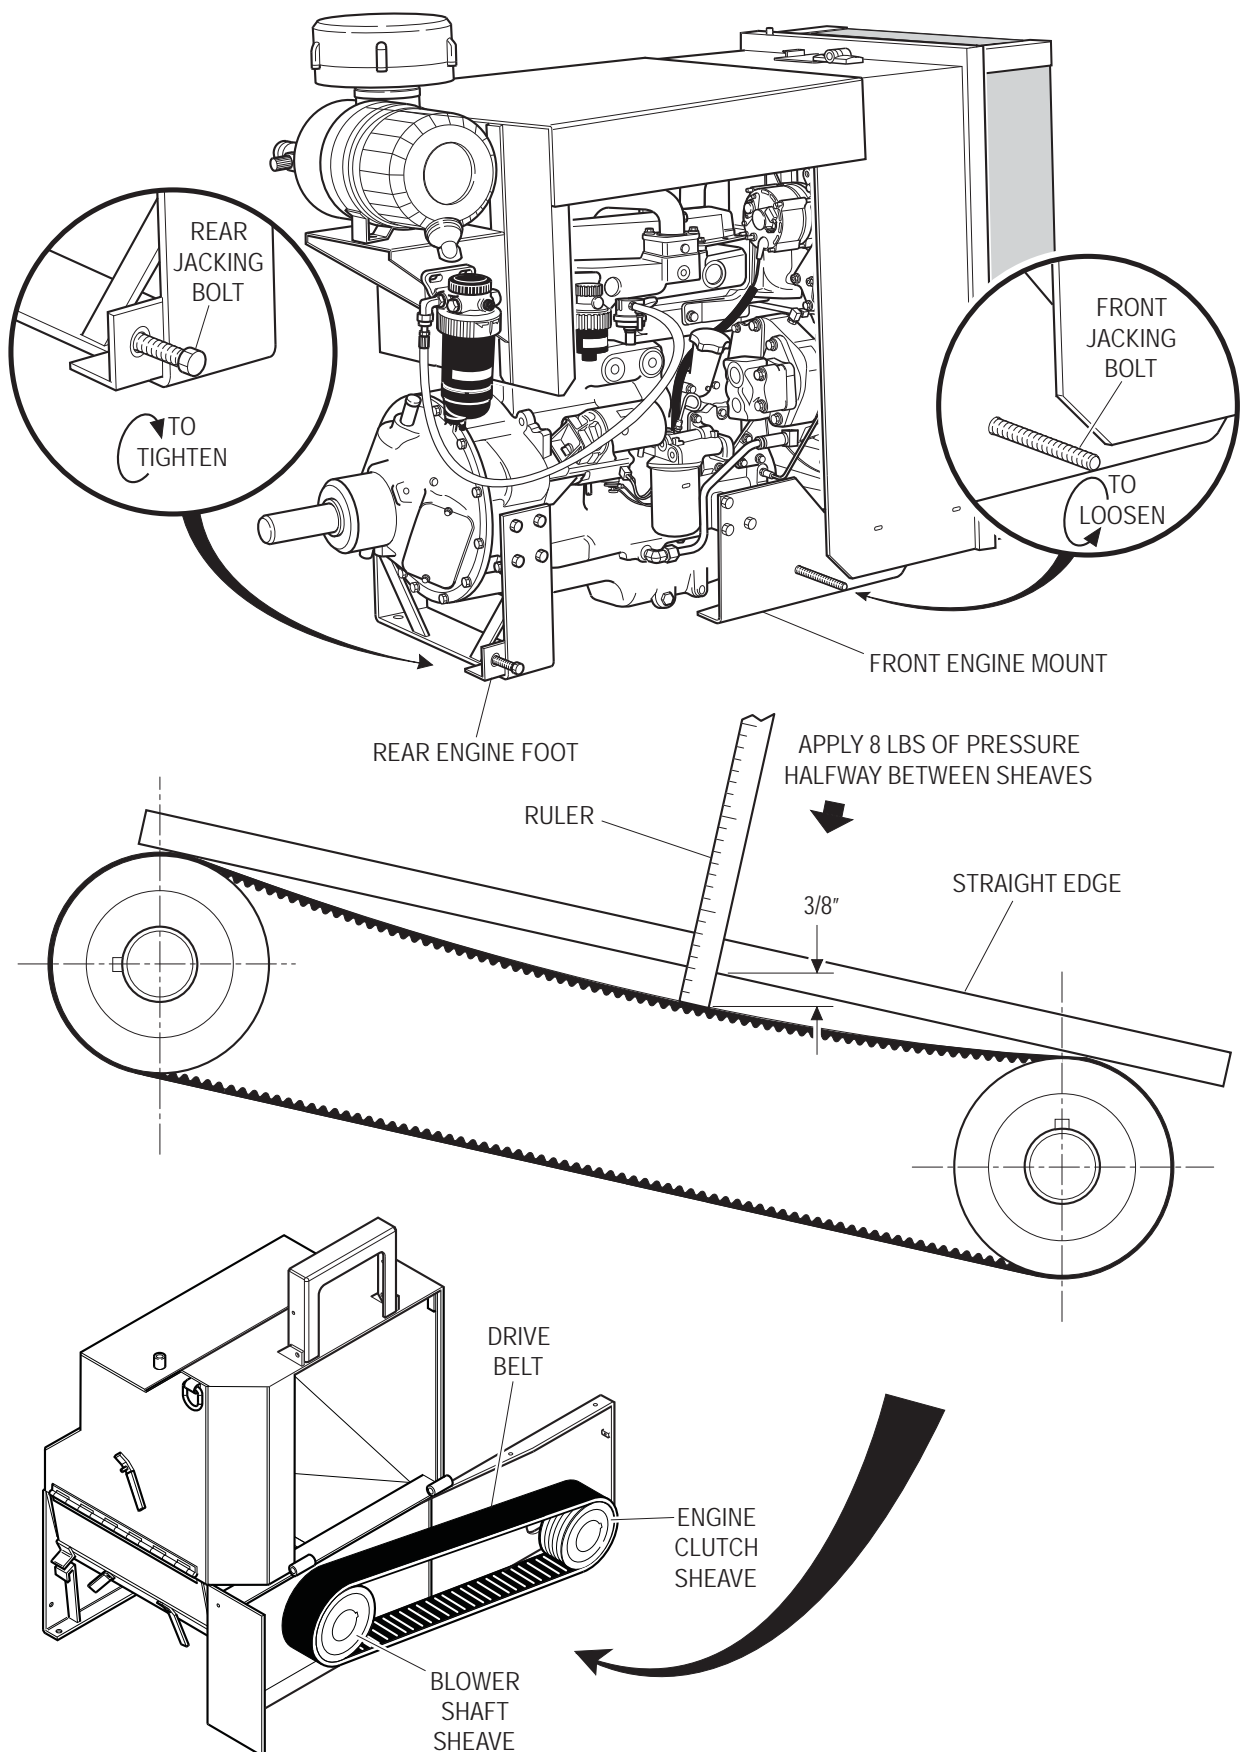

Figure 8 - Adjusting the Drive Belt
2. Position a straight edge across the belt, starting from the BLOWER SHAFT SHEAVE and extending across the top of the ENGINE CLUTCH SHEAVE. See Figure 8.